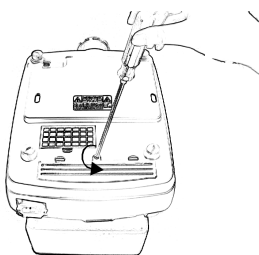

Figure 1.1
1. Place the projector on a soft cloth and turn it upside down. Use a Philips head screwdriver to release the screw securing the lamp cover. (See figure 1.1)